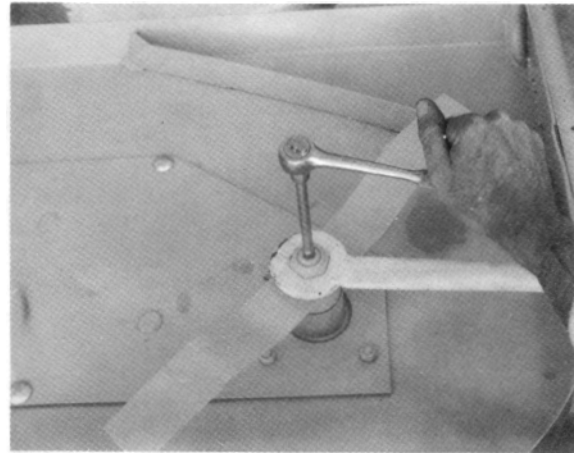

fig 9
3. **BLADE REMOVAL:** STOP the engine, Put the PTO in the OUT position. Put the operating levers in NEUTRAL. BE SURE the blades have stopped. Remove the mower from the tractor. Turn the mower upside down. Hold the rotor shaft with a 3/8" socket drive and remove the nut with a 15367E1 Gravelly Wrench or equivalent fig 9. Do not use the top spindle nut to hold the spindle from spinning
7. **BELT REMOVAL:** Remove the belt covers. Unhook one end of each spring; use a spring puller or clamp-lock pliers. Remove the drive. Remove the belts. See figs 2, 3, & 4. fig 1, Item 14 and 15. Hold the rotor shaft with a 3/8" socket drive and torque the nut to 100 ft. lbs. Similar tightness can be reached with a Gravelly 11367E1 Wrench or any 16" length handle wrench when used by an average man, fig 9.